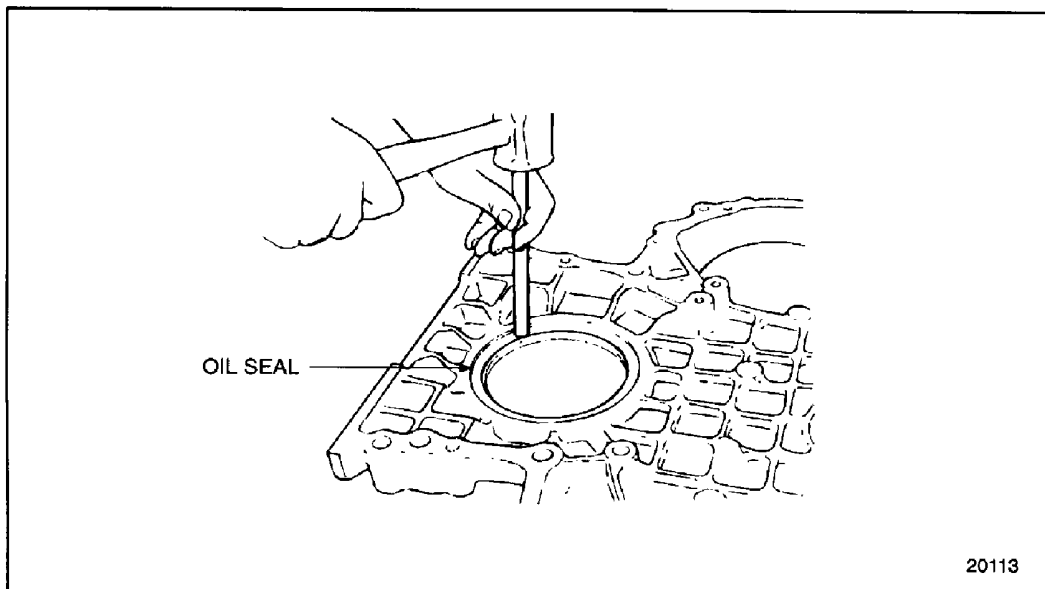

Figure 1-126 Front Crankshaft Oil Seal Removal
2. Drive the oil seal out with a brass drift and hammer. Clean the seal bore in the housing. See Figure 1-126.